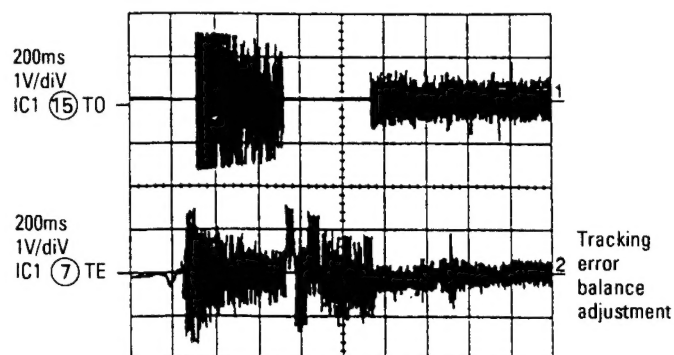

Fig.3
3. E/F balance (Tracking error balance) (Fig.3)